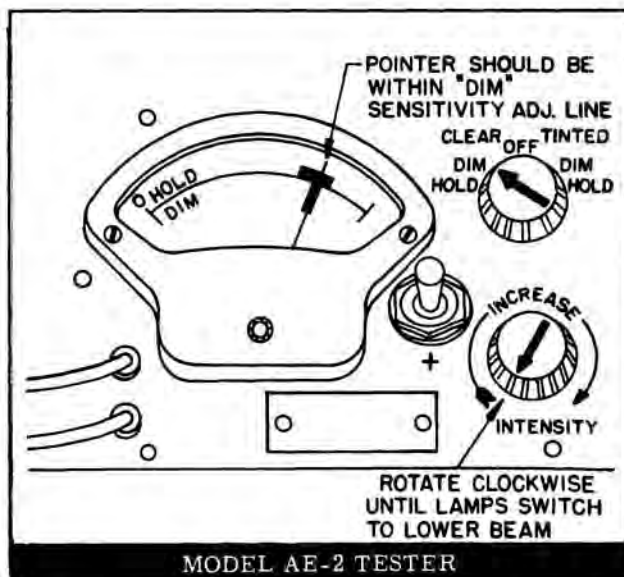

Fig. 12-49 Dim Sensitivity Test
1. Rotate tester Intensity Rheostat completely counterclockwise. (Fig. 12-49)